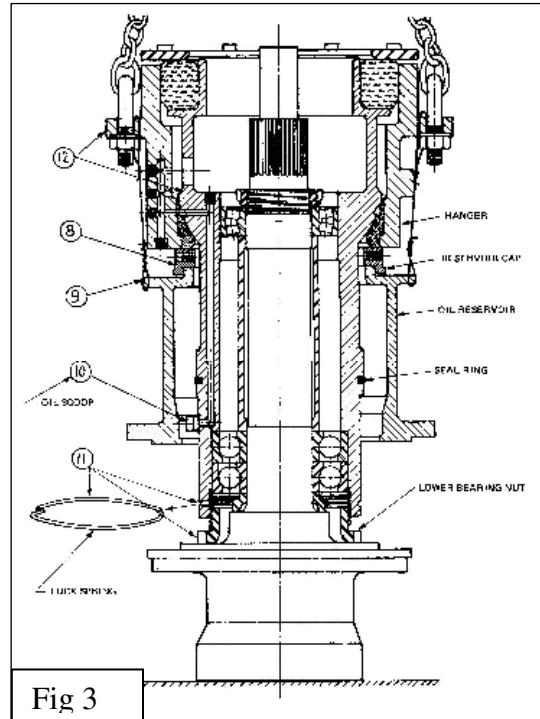

Fig 3
Step 8 (Figure 3)
Step 9 (Figure 3)
Step 10 (Figure 3)
Step 11 (Figure 3)
Step 12 (Figure 3)